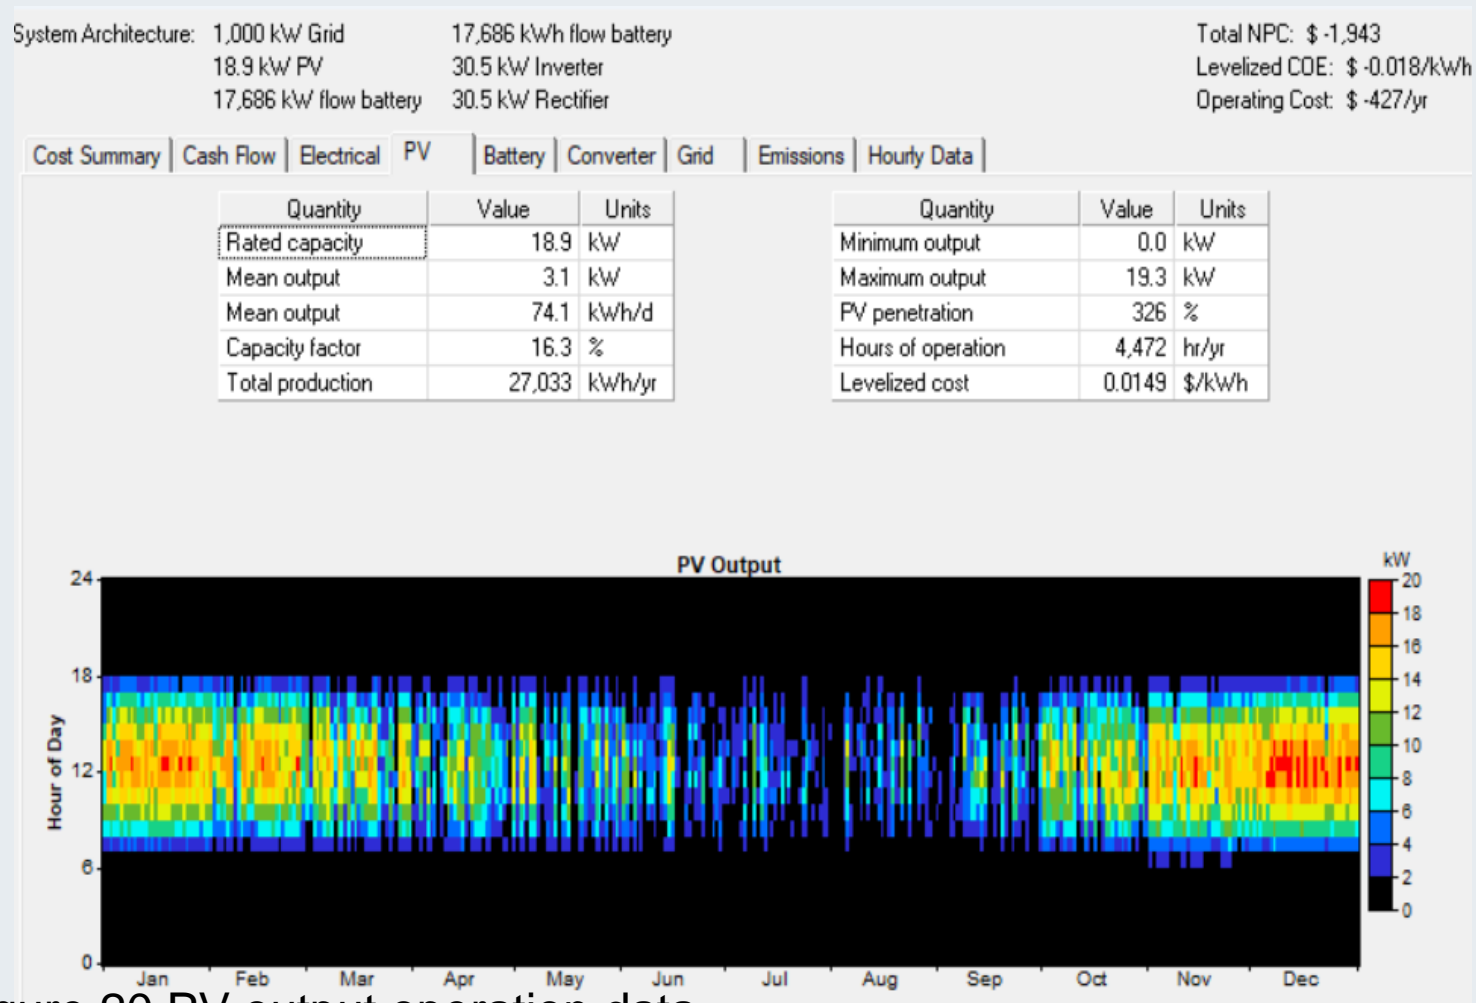

Figure 20 PV output operation data
- The PV output operation is given in Fig.20